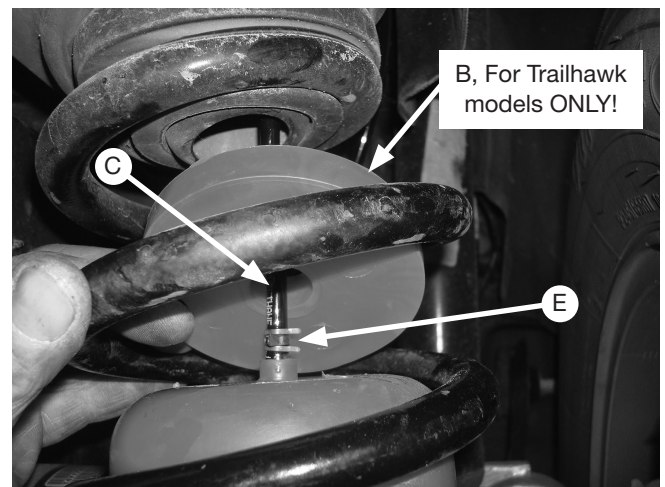

Fig. 5
4. Cut the air line (C) into two pieces and using a pair of pliers, slide the air line clamps (E) over one end of the air lines. Then route the air lines through the hole in the upper spring seats (Fig. 5), through the spacers (B, Trailhawk only) then over the barbed stem on top of the cylinders. Making sure the air lines completely cover the barbed stems and using the pliers, slide the air line clamps over the barbed stems.